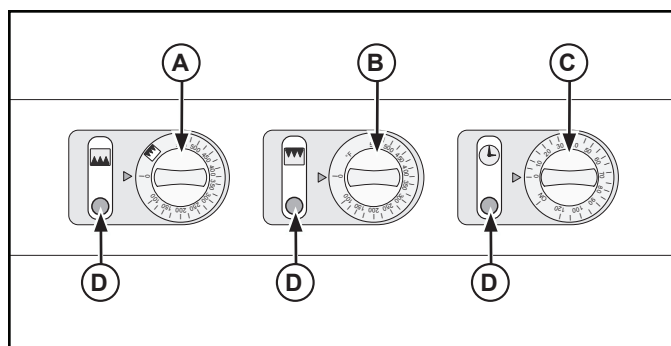

Figure 1. 40703 and 40701 Controls.
2. Close the door and turn the bake control  (A) to 525°F (274°C), set the timer  (C) for 30 minutes. During this burn-in you may notice a slight odor, this is normal. See Figures 1 and 2.